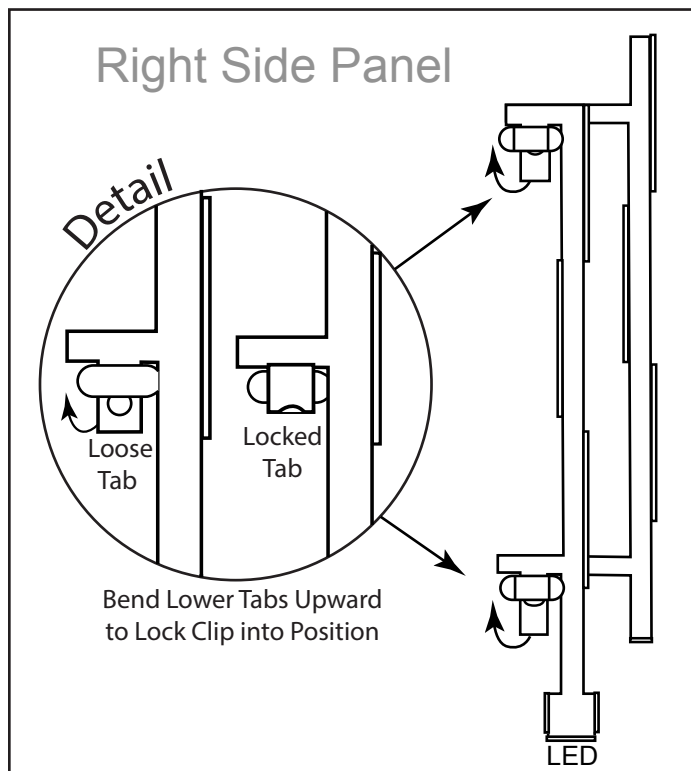

Fig. 18 Installing windshield clips
**Step 4:** After each LED glass clip is installed, use a flat blade screw and carefully bend the bottom tab out and upward to lock it into position. Use a fingertip or pliers to press the tab flat against the metal bridge. See Fig. 18.